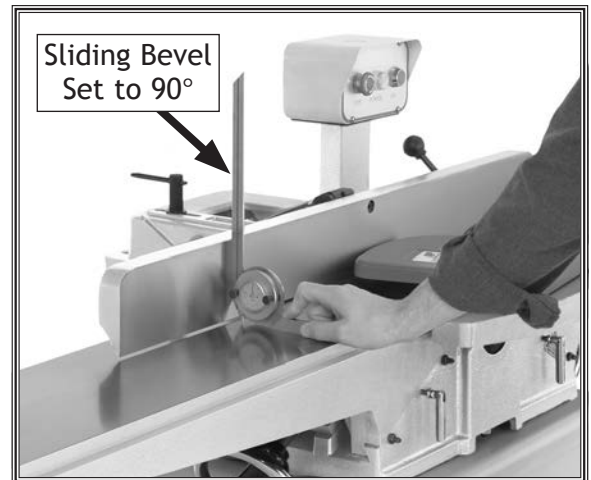

Figure 56. Example of adjusting fence to 90°.
3. Place sliding bevel set to 90° against fence and table, as shown in Figure 56.